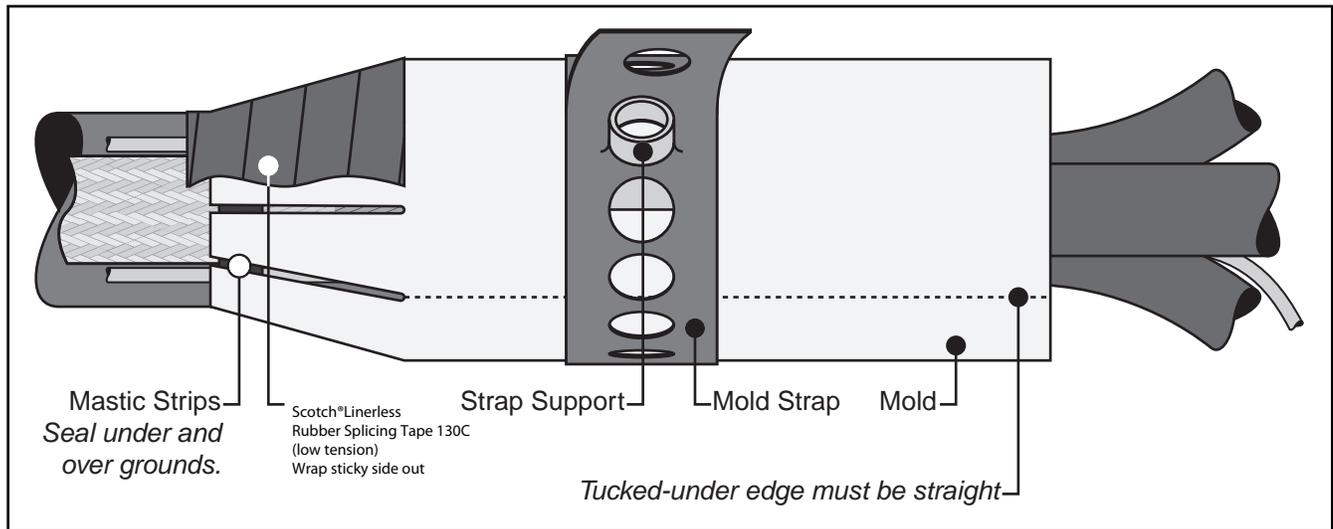

Figure 19
NOTE: The tucked edge must be straight to form a seal. (Figure 19.)
8.9 Position strap support onto mold, locating it over the spacer web collar. Secure it firmly with the mold strap. (Figure 19.)
- 8.10 Apply Mastic Strips (contained in 3M™ Loadbrak Elbow Kits 5811-B) around cable under the end of the mold fingers. Wrap mastic under and over the grounds to form a seal for the resin compound. (Figure 19.)
- 8.11 Bundle mold fingers evenly around cable, maintaining cable centering. Starting 1/2" (13 mm) on cable jacket, apply a half-lapped layer of Scotch® Linerless Rubber Splicing Tape 130C over the fingers. (Figure 19.)